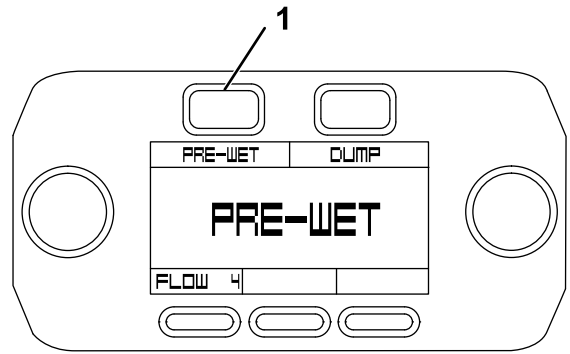

Figure 48
3. On the pre-wet screen, press the Pre-Wet button (Figure 48).